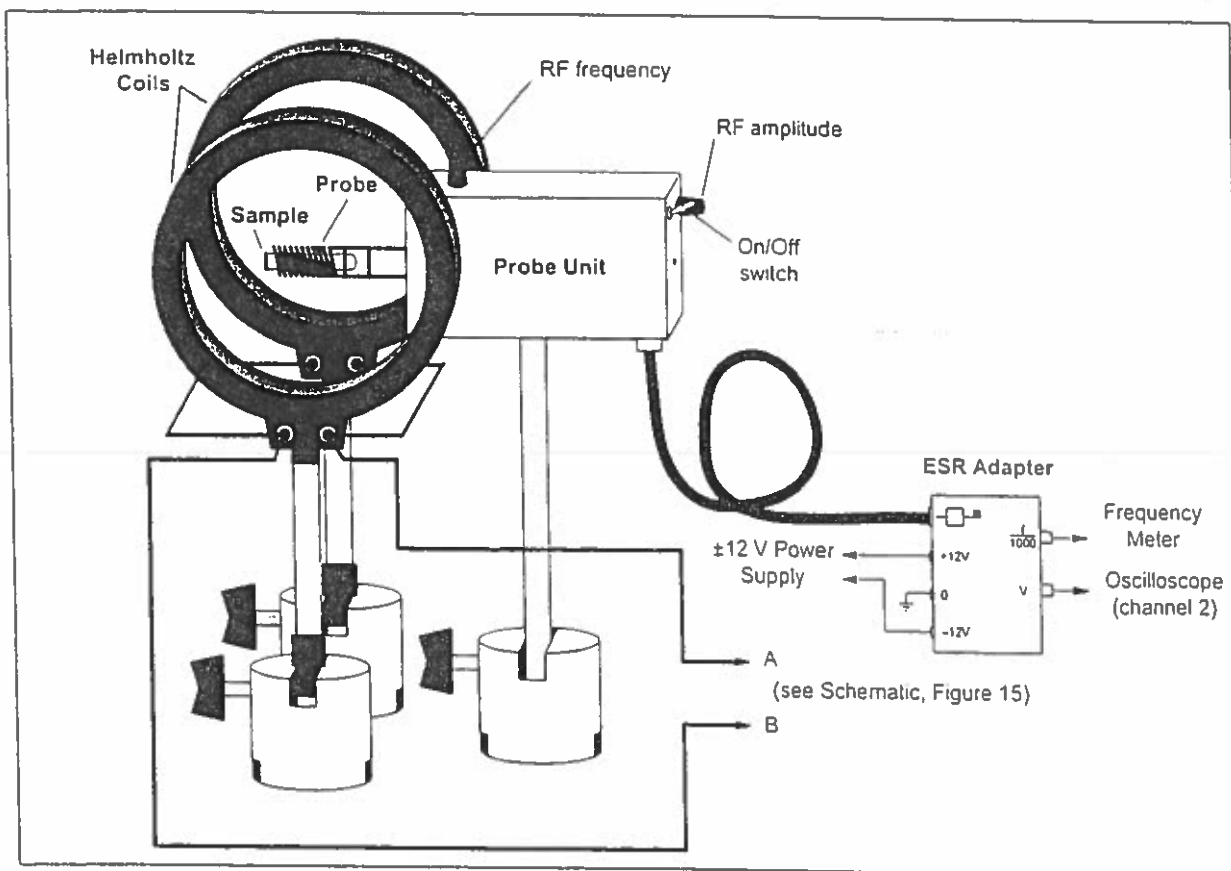
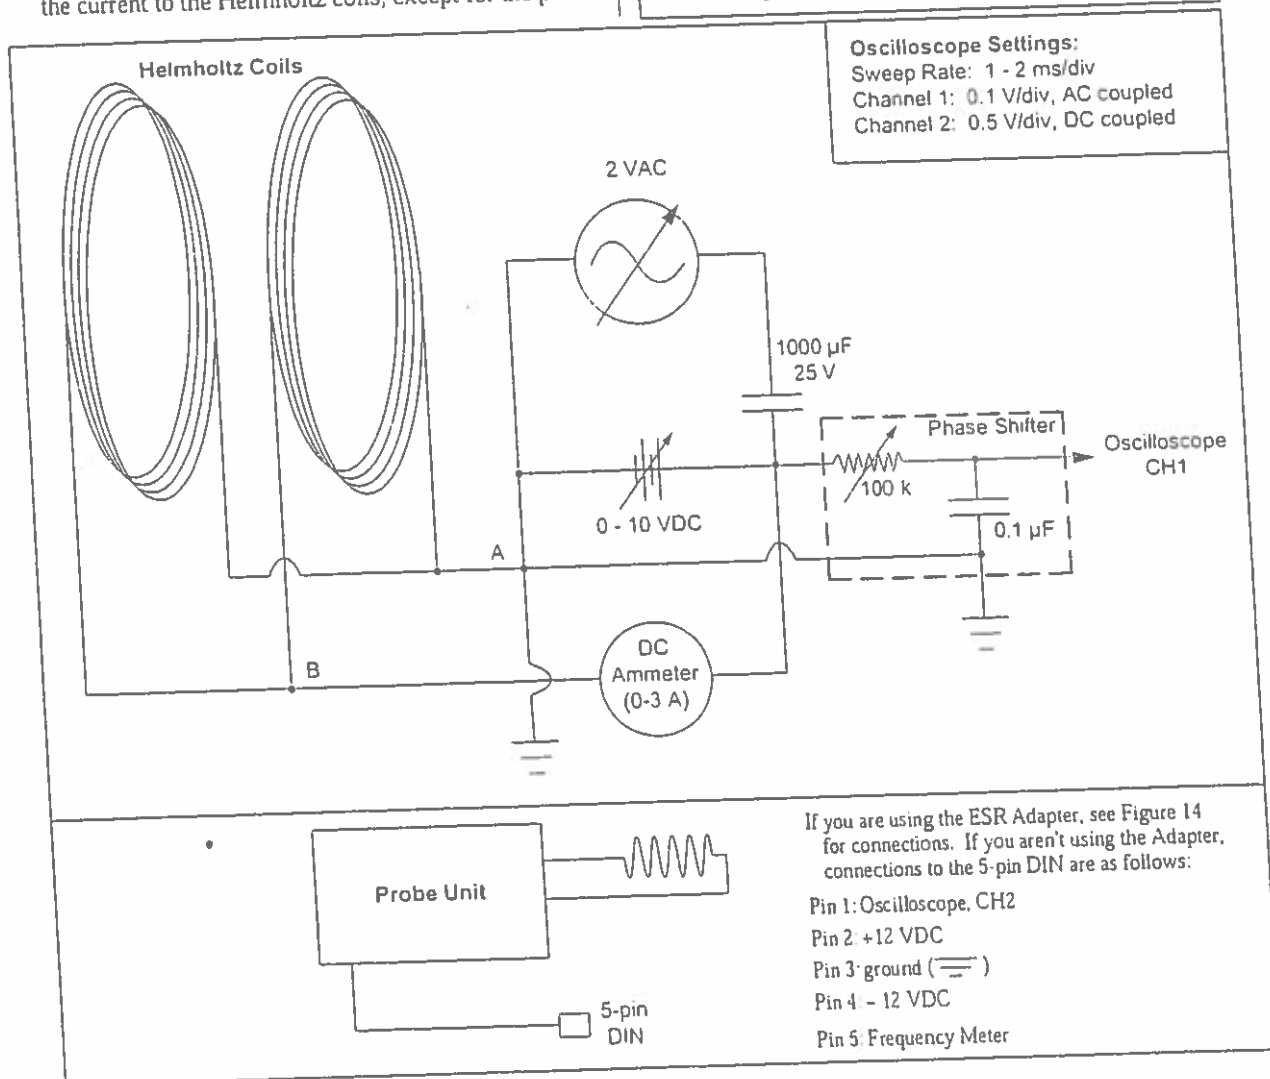
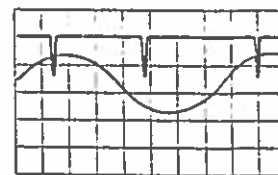

Figure 14 Setup Using the Basic ESR System
Figure 15 Schematic for Setup without Control Unit
Figure 16 Scope Display
- ① Connect the Helmholtz coils in parallel, as shown in Figure 14. (Connect terminal A on one coil with terminal A on the other, and likewise connect Z to Z.)
- ② Position the Helmholtz coils so that they are parallel and facing the same direction. The separation between the coils should be approximately equal to their radius. This arrangement produces a highly uniform magnetic field around the center point between the two coils.
- ③ Connect the power supplies, ammeter, oscilloscope, and circuit components to the Helmholtz coils as shown in Figure 15.
With the oscilloscope controls set to the values shown in Figure 15, channel 1 of the oscilloscope will show the current to the Helmholtz coils, except for the phase
- ⑤ Connect the Probe Unit to the ESR Adapter, and connect the Adapter to the power supply, frequency meter, and oscilloscope, as indicated in Figure 14. (If you aren't using the ESR Adapter, the connections to the Probe Unit are as shown in Figure 15. If you wish to build your own adapter box, see the Appendix.)
- ⑥ Insert the medium-sized RF Probe into the connectors on the Probe Unit, and turn on the Probe Unit. Adjust the frequency to about 50 MHz (50 kHz on your frequency meter) and the amplitude to a midrange value. Then insert the test sample into the RF Probe and place the probe and sample in the center of the Helmholtz coils, with the axis of the Helmholtz coils perpendicular to the sample (see Figure 14). The oscilloscope traces should now appear approximately as in Figure 16.
- ⑦ If you don't see the resonance pulses, slowly vary the DC current to the Helmholtz coils, or vary the RF frequency, until you do.